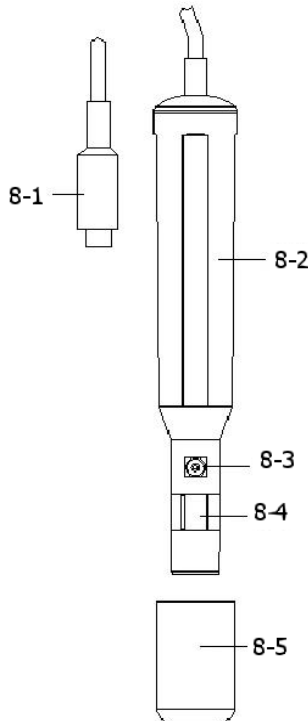

Fig. 5
- 1) Prepare the Oxygen Probe ( optional, DOPB-11 ), install the " Probe Plug " ( 8-1, Fig. 5 ) into the " DO Socket " ( 3-14, Fig. 1 ).
- 1) Install the " Probe Plug " ( 8-1, Fig. 5 ) into the " DO Socket " ( 3-14, Fig. 1 ).
- 5) **When not use the probe, should insert the " Probe head " into the " Probe protection cover " ( 8-5, Fig. 5 )**